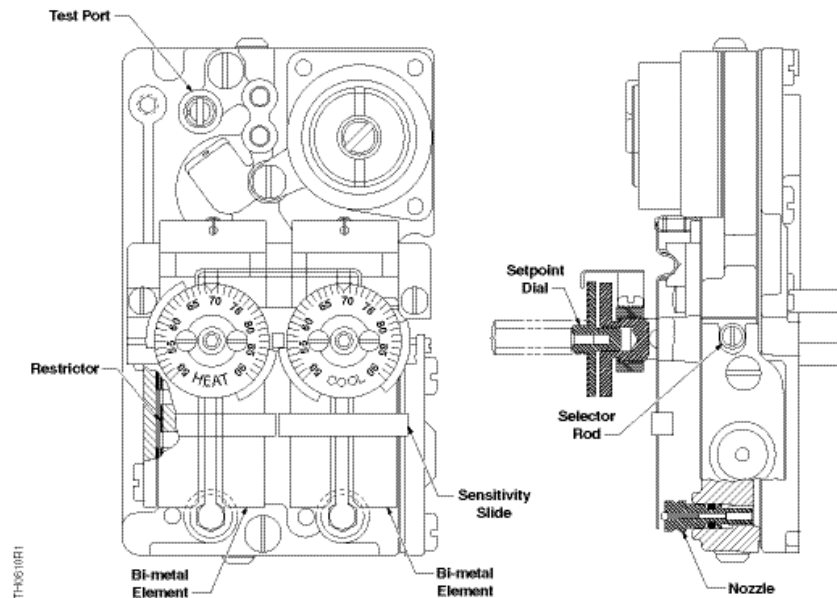

Figure 11. TH 182 HC Thermostat Details.
3. Invert cover and place the Cover screw and calibration wrench in the center of the coil of spiral and carefully rotate until the pointer tip indicates the correct room temperature. See Figure 11.